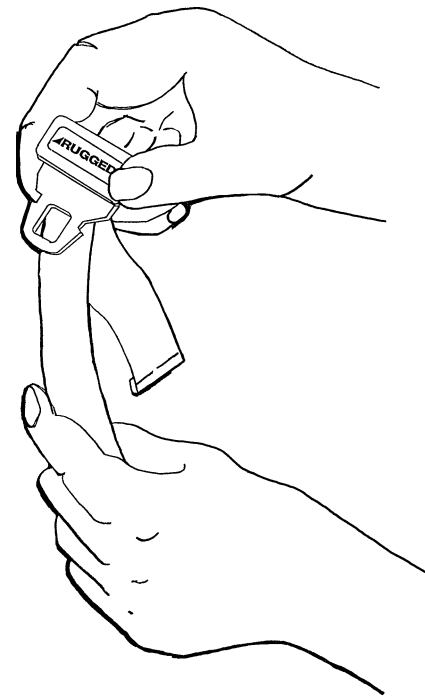

Figure 10 - Lengthening the Safety Restraint
To open the restraint, press the red button (A) on the front of the buckle "receiver". This releases the buckle "tang" (B) which can then be pulled out of the receiver (Figure 10).
To close the restraint, push the tang into the receiver until a "click" is heard. When fastening the chest restraint be sure the tang passes through both links (C) on the shoulder strap (Figure 10).